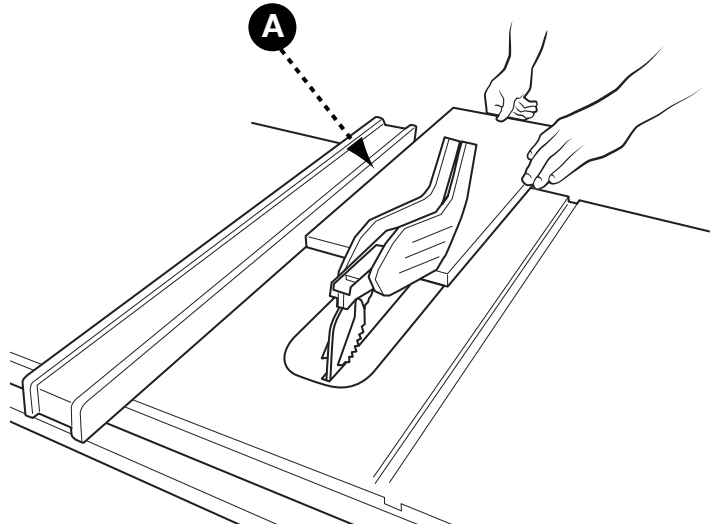

FIGURE 20
8. Hold the workpiece flat on the table and against the fence (A). The workpiece must have a straight edge against the fence and must not be warped, twisted or bowed. See proper hand position in (Fig. 20).